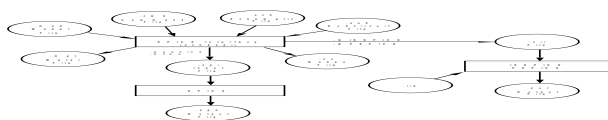

Figure 9-1. Extraction for SPICE
*Figure 9-1* is a diagram that illustrates SPICE extraction. It shows the input files *Sch2spi* accepts and various kinds of output files that it can produce.